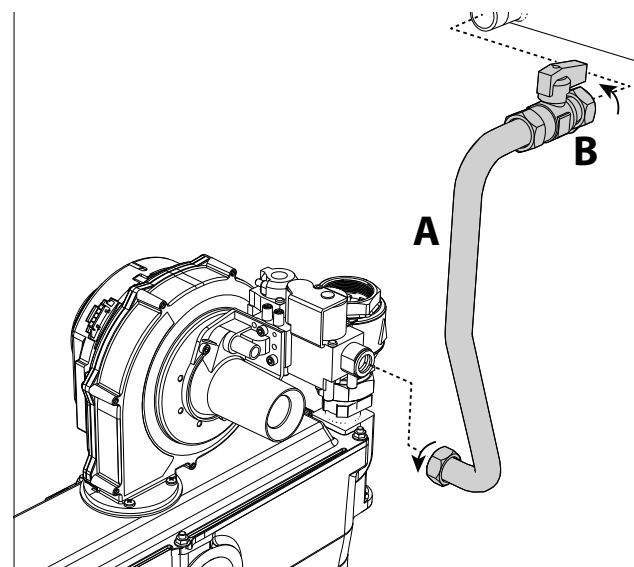

fig. 68
5. Loosen the swivels and disconnect the gas pipe "A" together with the cock "B" (fig. 68).